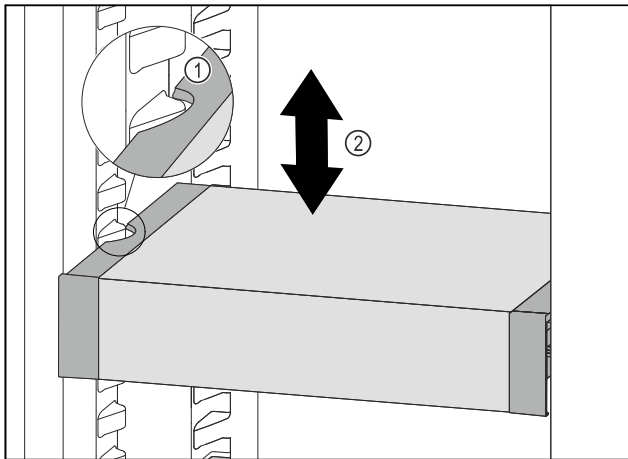

Fig. 35
- Pull VarioSafe forwards until the recesses in the side of the VarioSafe are at the level of the support rib in the refrigerator compartment. Fig. 35 (1)
- Move VarioSafe up or down in the refrigerator compartment until the desired height is reached. Fig. 35 (2)